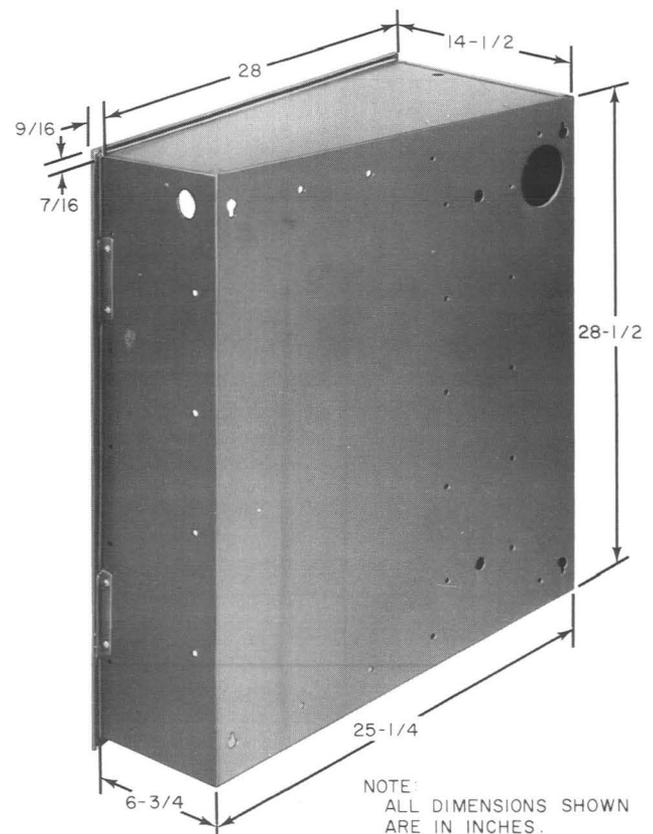

Fig. 9—Rear View of Housing
- (a) Refer to Fig. 9 and 10 for dimensions and cut hole in wall to accept housing. Minimum depth shall be 15-1/2 inches.
(c) Install housing in cutout and secure it to walls. Thirteen mounting holes are available in back of housing and four holes are available at each end behind perforated panels (Fig. 9). Housing should be made level by shimming. Use fasteners specified in Table B.